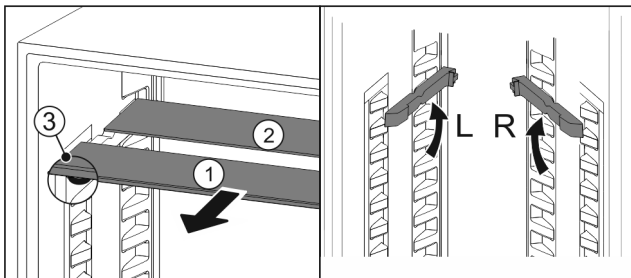

Fig. 91
- ▶ Pull the glass panels out Fig. 91 (1) from the front, one at a time.
- ▷ The glass panel Fig. 91 (1) and trim strip are at the front.
- ▷ The stops Fig. 91 (3) point down.